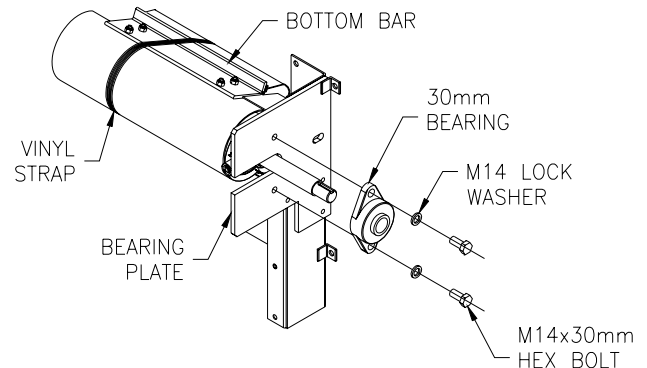
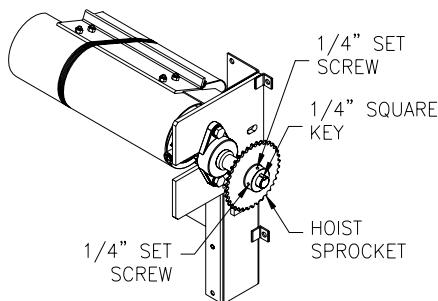
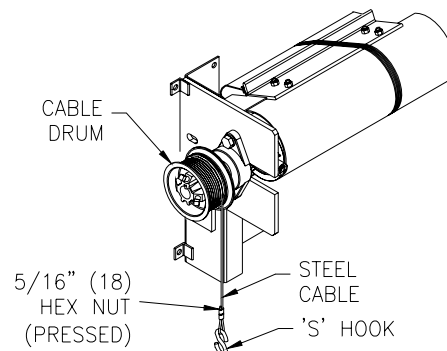

FIG. 7A
FIG. 7B
FIG. 7C
- **Insert Counterweight Drum and Sprocket** on ends of Fabric Roll shaft (Figure 7A)(Figure 7B) (Figure 7C).